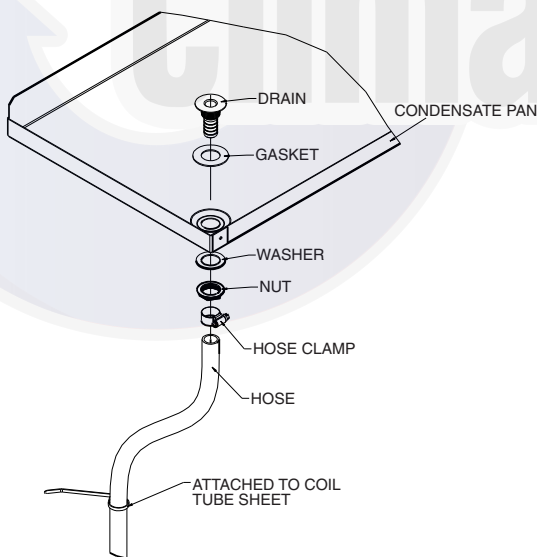

Fig. 88 — Install Drain Fittings
14. Install the drain fittings into the pan. Route and secure the hoses as shown in Fig. 88.